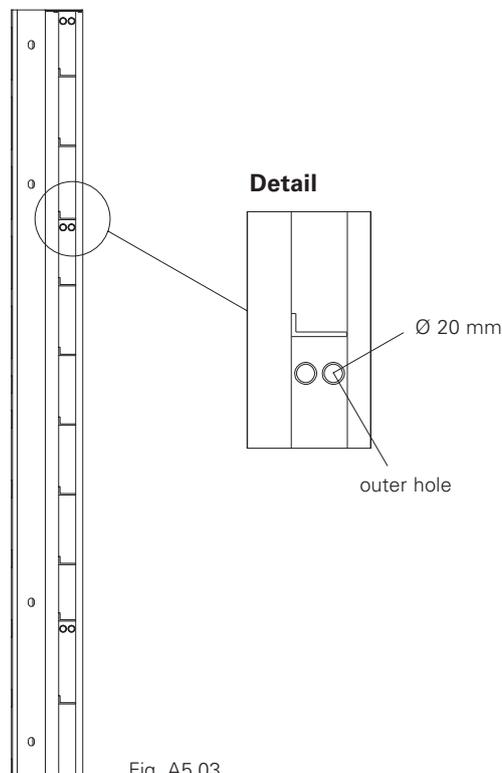

Fig. A5.03
- When using Articulated Corners as 90° internal corners, only the outer holes may be used for anchoring if using Wingnut Pivot Plates (Fig. A5.03)
- When using Compensation Walers, e.g. for oblique angles, anchoring can take place through both holes (Fig. A5.03)